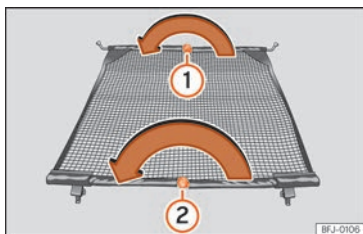

Fig. 152 Folding in the net partition.
- Press on the release button » **Fig. 152** ① and bend the cross rod in the direction of the arrow with the button pressed.
- Press on the release button » **Fig. 152** ② and bend the cross rod in the direction of the arrow with the button pressed.